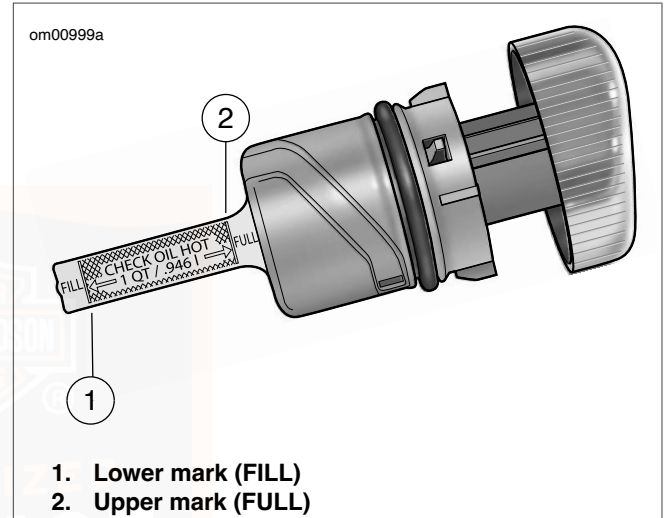

Figure 40. Dipstick
5. See Figure 40. Remove the filler cap. Check engine oil level.